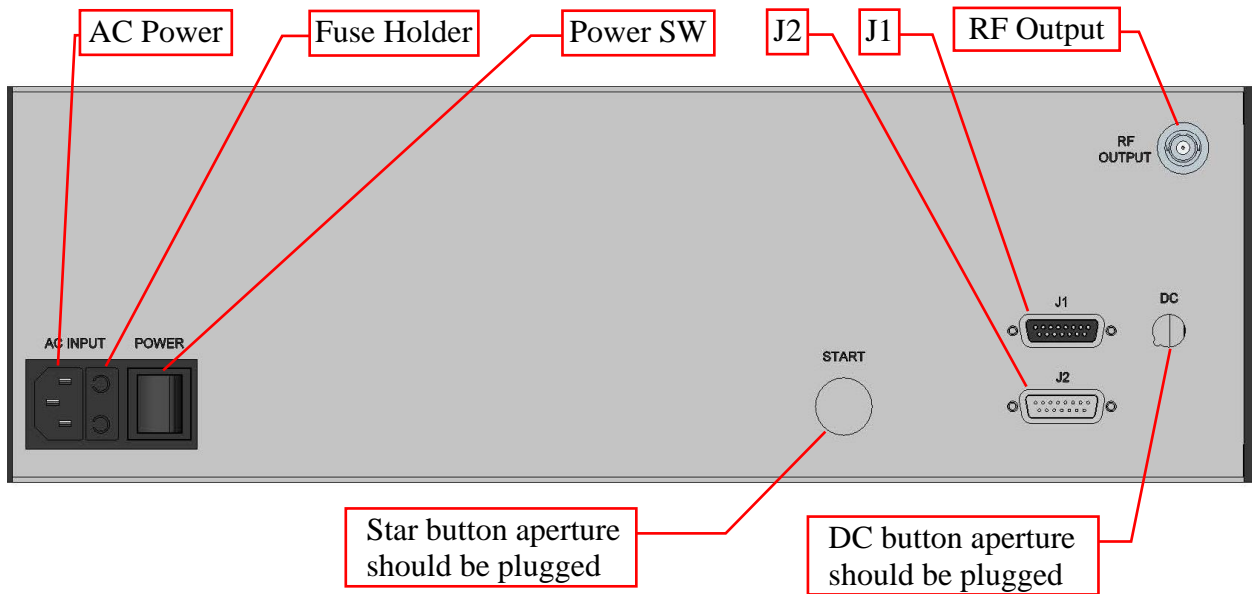

Figure 2.2 3800 RF generator, rear panel
2.3.2. Connect the coaxial cable from the sealing head to the BNC port (RF Output) on the generator. See Figure 2.2.
2.4.1. Switch the power switch to ON (|). See Figure 2.2